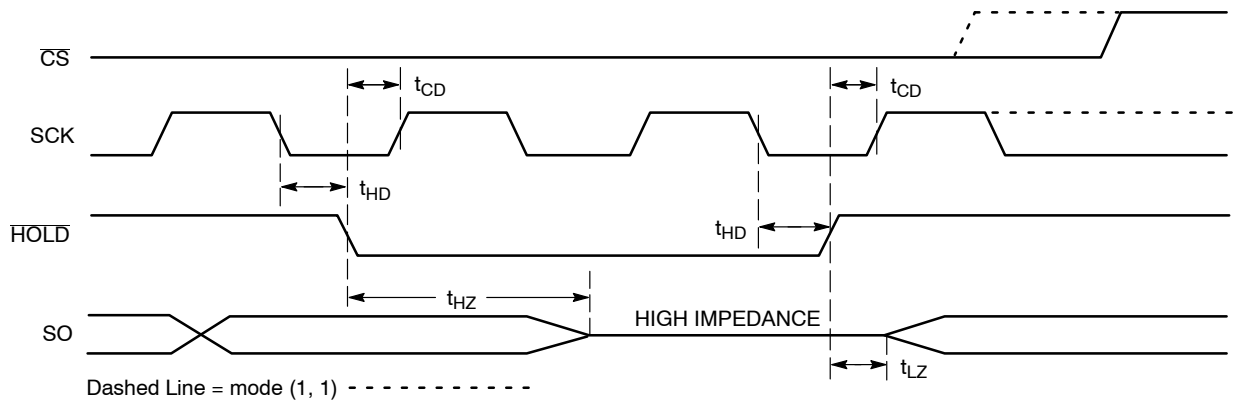

Figure 11. HOLD Timing
The  $\overline{\text{HOLD}}$  input can be used to pause communication between host and CAV25512. To pause,  $\overline{\text{HOLD}}$  must be taken low while SCK is low (Figure 11). During the hold condition the device must remain selected ( $\overline{\text{CS}}$  low). During the pause, the data output pin (SO) is tri-stated (high impedance) and SI transitions are ignored. To resume communication,  $\overline{\text{HOLD}}$  must be taken high while SCK is low.